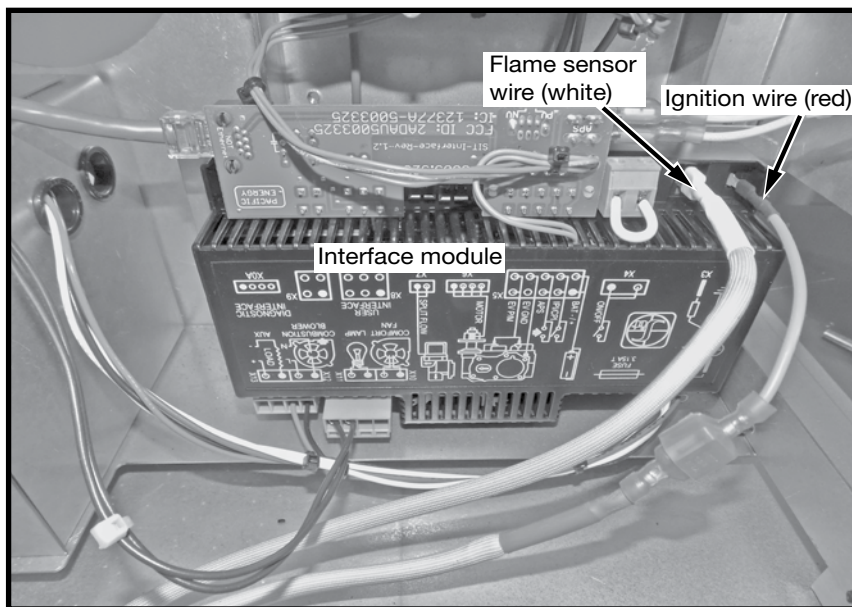

Figure 8: Interface module.
7. Attach the ignition and sensor wires to the interface module as shown in (Figure 8).